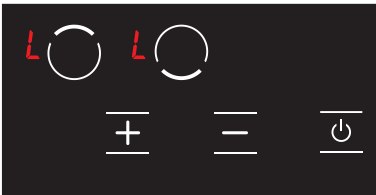

Figure 16
3. The child lock is activated at this time and the  icon is displayed on all hobs to indicate this condition. (see Fig. 16) The  and  icons are displayed alternatively if any hob is hot.